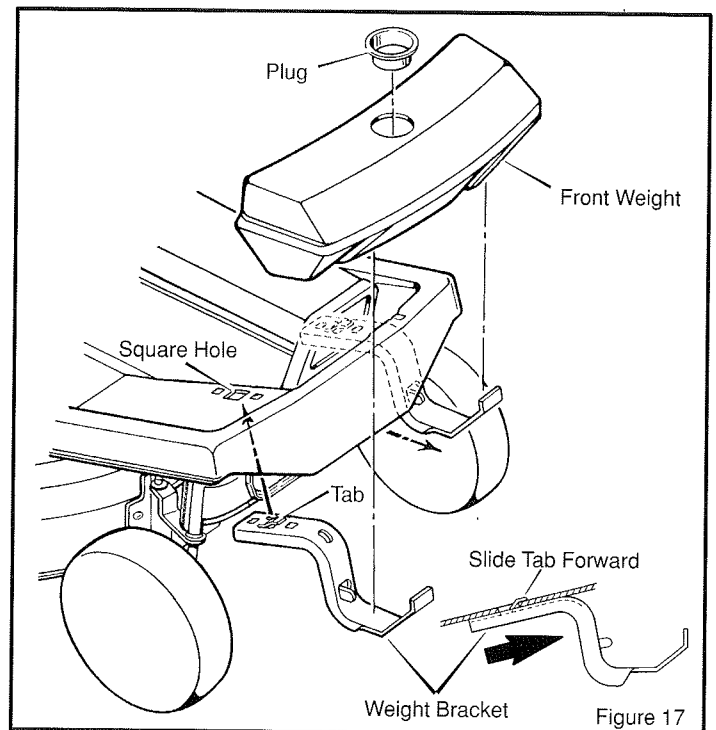

Figure 17
1. To find the mounting location for the **weight brackets**, look under the frame at the **square holes** (Figure 17). Lock the **tabs** on the **weight brackets** in the **square holes**. Fasteners are not required.